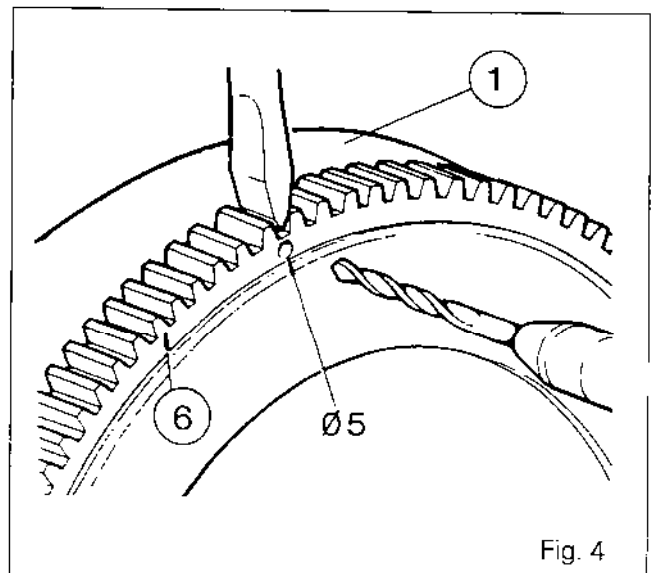

Fig. 4
5. Tighten the bolts (17) after smearing them with Loctite 241:
B. Replacing the starting ring gear (Fig. 4)